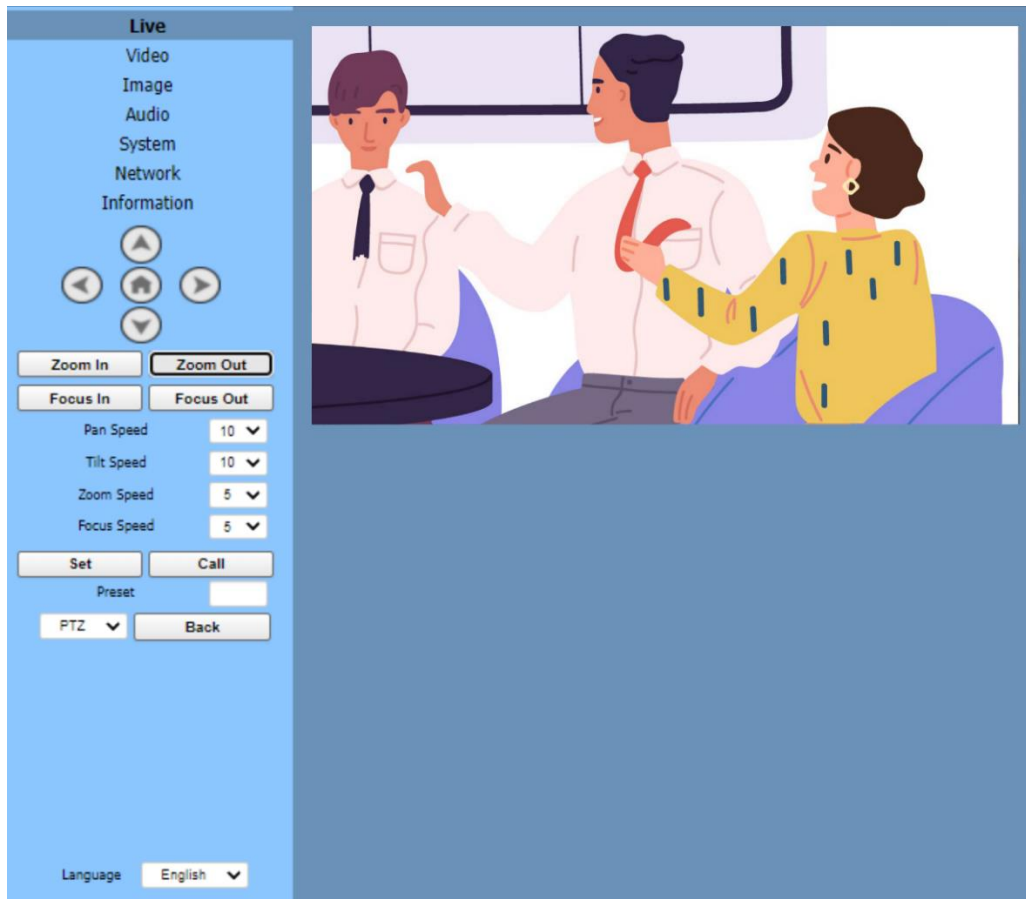

Figure 7: Live Page
1. Access the embedded webpages (see Browsing the K-Cam4K Webpages on page 21). The Live page appears (see Figure 7).
The Live page appears (see Figure 7).